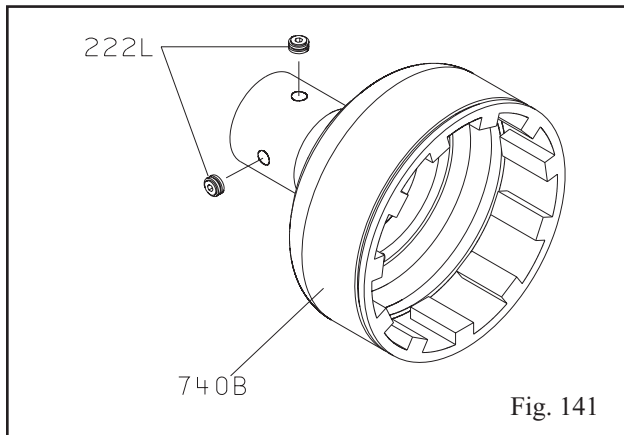

Fig. 141
17. Set C-face motor support (228) on motor. Install four screws (371).
18. Slide key (178Y) into motor shaft keyway.
19. Install two set screws (222L) into magnet assembly (740B) (Fig. 141).